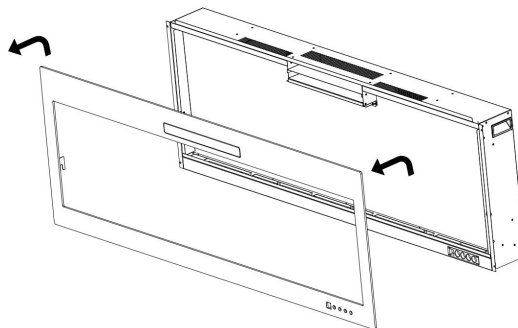

Fig. 2-2
- B.** Remove the two brackets and set them aside.(Fig. 2-2)